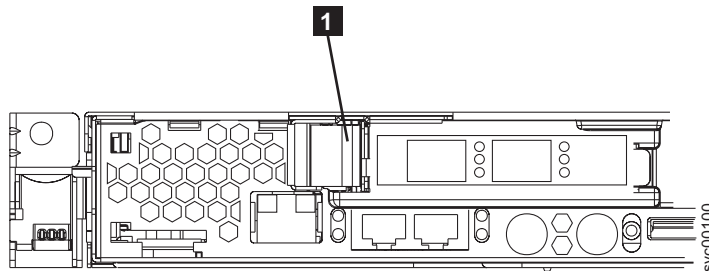

Figure 63. PCI slot 1 card retainer
- a. Pull the blue PCI card retainer **1** from the rear of the SAN Volume Controller 2145-8F2. See Figure 63.